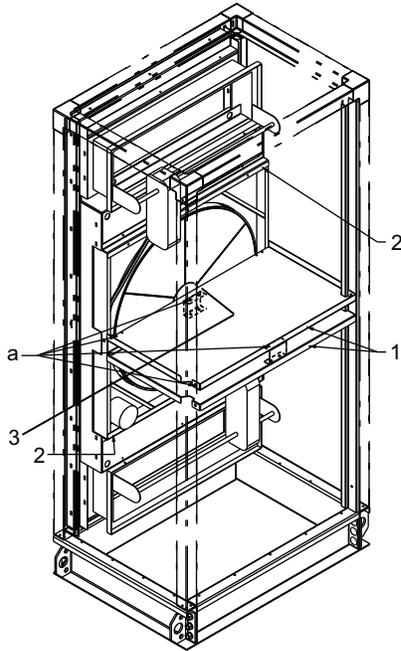
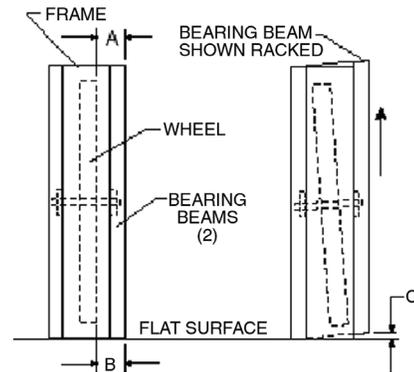
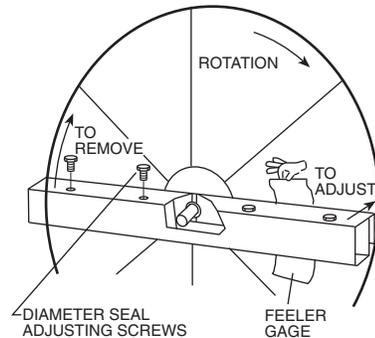

Fig. 190 — Remove Wheel for Cleaning (Wheel Sizes 25 and 30 Only)
Fig. 192 — Avoid Racking of Frame
Fig. 193 — Diameter Seal Adjustment
To clean wheels (size 25 and 30) use this procedure and refer to Fig. 190:
4. Refer to Fig. 190. Remove the upper and lower wheel center partition plates. This requires removing screws (a) of the upper and lower plate.
5. Remove the upper and lower (2) wheel retainer angles, being careful wheel does not tip and fall out.
6. Slide wheel cassette out of frame (toward main AHU), and out the side of the unit (3).
7. The new ERV section may be mounted in any orientation. However, make certain that the frame remains flat and the bearing beams are not racked as shown in Fig. 192.
8. To ensure that the beams are not racked, check that the distance between the wheel rim and bearing beam is the same at each end of the bearing beam, to within 1/4 of an inch (dimension A and B in Fig. 192). Bearing beam racking of as little as 0.040 inches (Dim C in Fig. 192) will cause the wheel to tilt 3/16 in. at the rim. Adjusting the diameter seals (Fig. 193) will compensate for up to 1/4 in. of racking.
9. Wheel sections installed at angles greater than 30 degrees from vertical will require seal adjustment (Fig. 193). Adjust the diameter seals to avoid excessive wheel drag. A final check of seal adjustment is recommended for all designs.
1. Loosen the diameter seal adjusting screws and back seals away from wheel surface (Fig. 193).